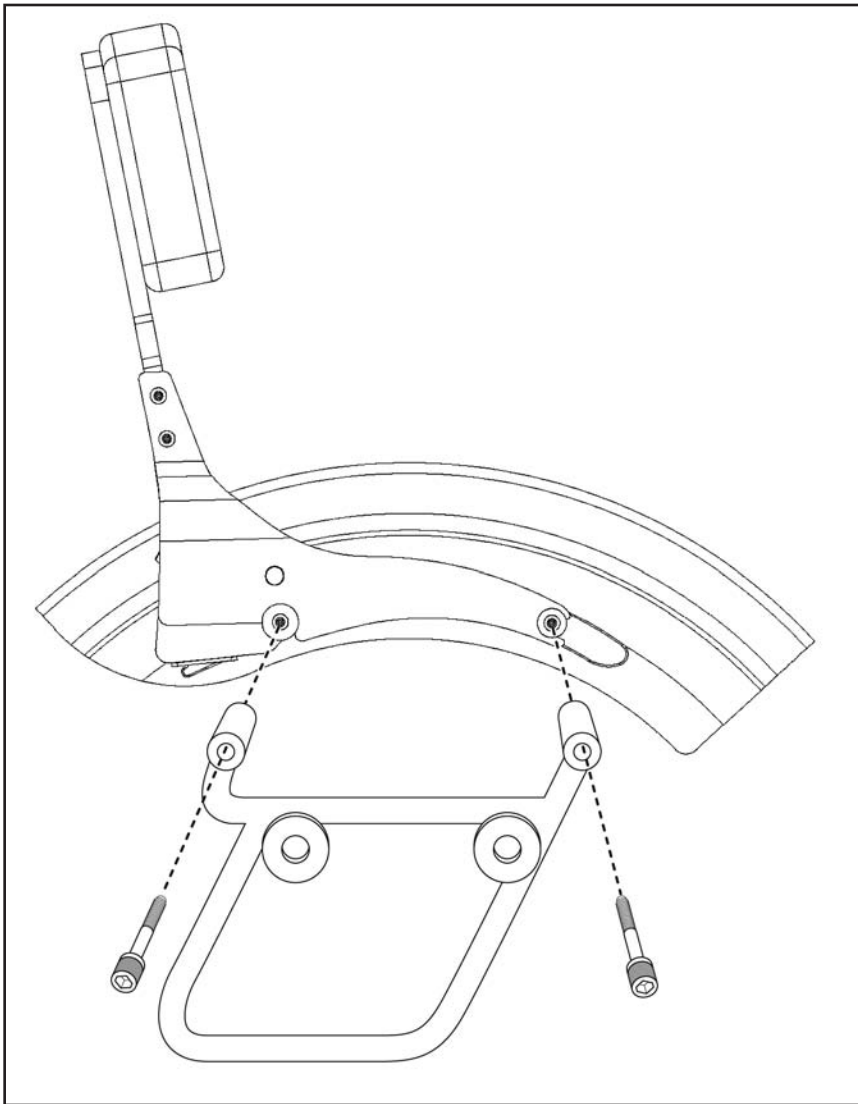

Figure 5
3. Install the frame bracket using the M8-1.25 x 75 screws from bag 636C or 636 of the Cruisliner Kit at rear. **(5mm Hex Key) Figure 5**